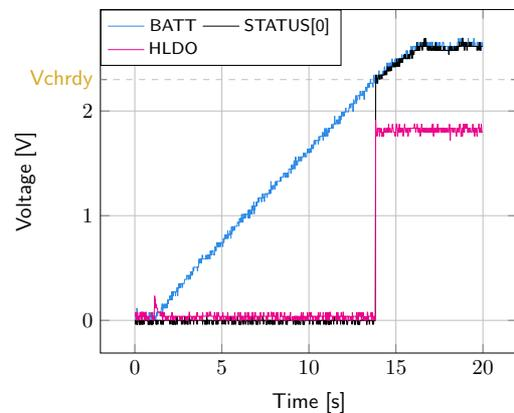

Figure 2: **STATUS[0]** and **HLDO** evolution with **BATT**
- **BATT**: Voltage rises as the power provided by the source is transferred to the storage element (see Figure 2).
- **HLDO/LLDO**: Regulated when voltage on **BATT** first rises above **Vchrdy** (see Figure 2).
- **STATUS[0]**: Asserted when the LDOs are ready to be enabled (refer to Section 7.2 "Normal mode" of the AEM10941 datasheet) (see Figure 2).